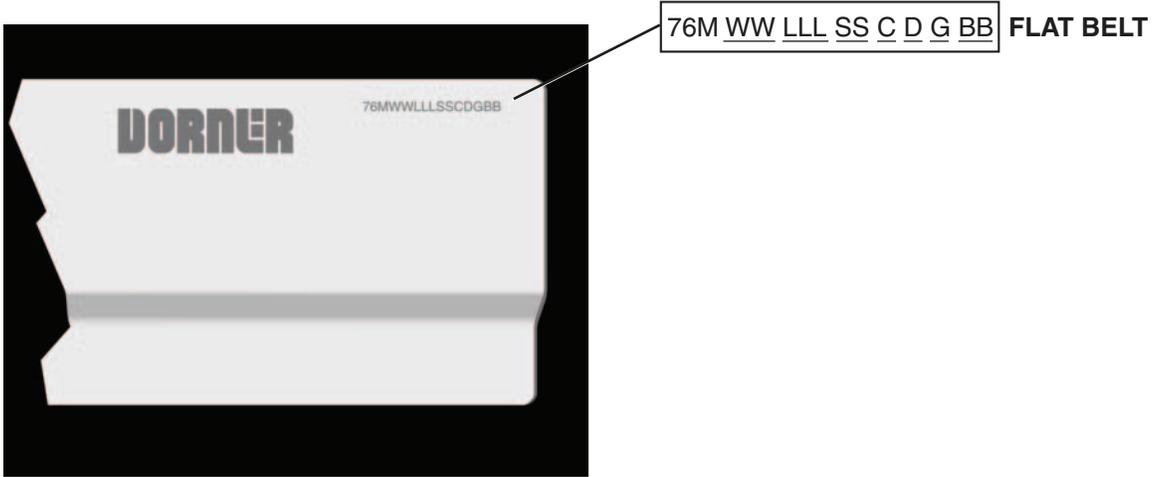

Figure 103
Refer to model number on the conveyor frame (**Figure 103**). From the model number determine the conveyor width (WW), length (LLL), drive/tail types (A) and belt type (BB). Use data to configure belt part number as indicated below.